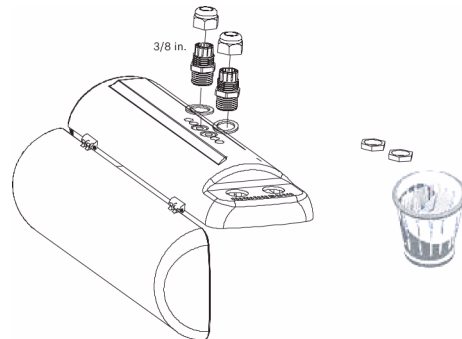

Fig. 13.5 Attaching the 3/8 in. NPT Fittings
Attach the two (2) 3/8 in. NPT fittings (discard the screw nut) with the rubber washer on the outside of the housing directly to the bottom openings (see *Figure 13.5* on page 24).